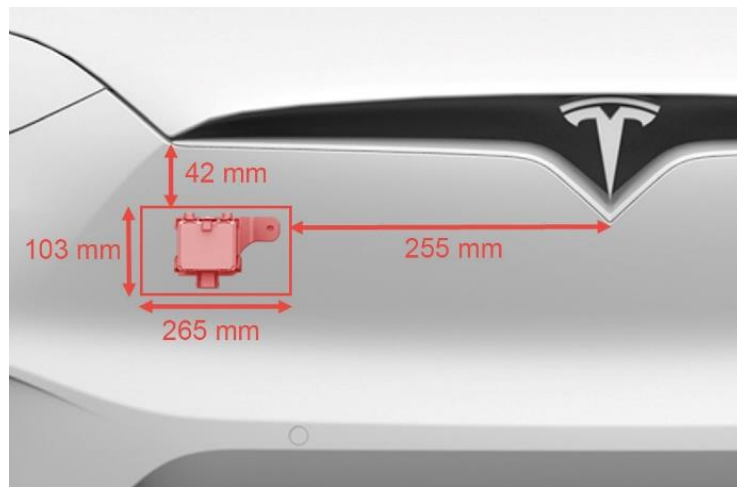

Figure 1 (Model X)
- Die maximal zulässige Lackschichtdicke auf dem Front-Stoßfänger im Bereich des Radarsensors (siehe Abb. 1) beträgt 300 µm. Dies entspricht in etwa einer werksseitigen Lackierung und einer Nachlackierung.
The maximum paint thickness in the radar area (Figures 1, 2, and 3) on a front bumper fascia is 300 microns (12 mils). 300 microns (12 mils) is approximately 1 factory coat and 1 recoat.
If a front bumper fascia requires repainting for a 2nd or 3rd time, all paint must be removed in the radar area (Figures 1, 2, and 3) down to the base plastic before repainting, or the front bumper fascia must be replaced.
- Do not perform any repairs in the radar area (Figures 1, 2, and 3). Repairs include adding plastic filler, gluing, plastic welding or stapling, or leaving a feathered paint edge.
- Remove all paint in the radar area (Figures 1, 2, and 3) down to the base plastic if refinishing the front bumper fascia will result in a film thickness greater than 300 microns (12 mils) in the radar area.